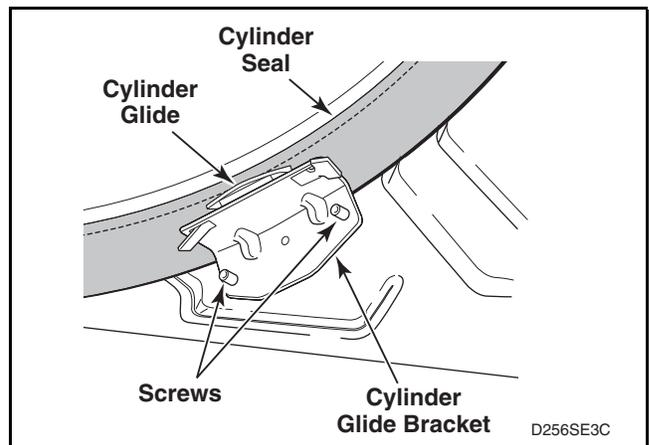

Figure 32
- j. **Cylinder Glides and Glide Bracket.** Refer to *Figure 32*.
- (1) Unsnap glide from each glide bracket.
- (2) Remove screws holding glide bracket to front bulkhead.